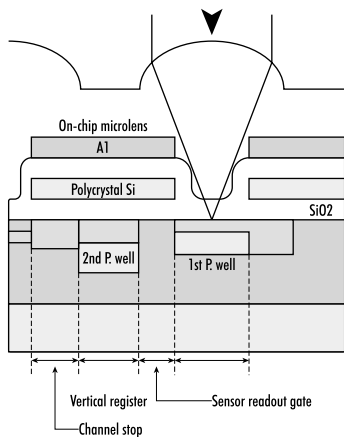
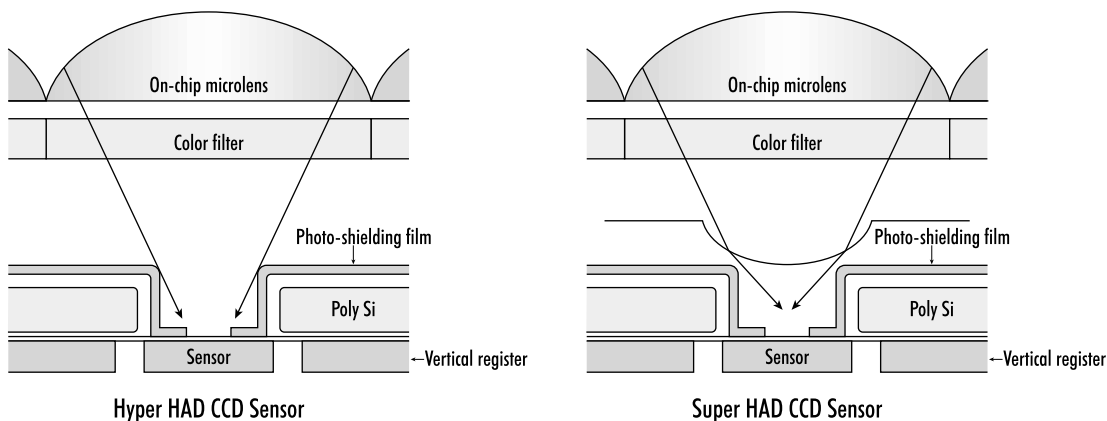

Figure 1.
Figure 2.
The CoolSNAP cameras use interline-transfer CCDs from Sony. Sony was the first to implement the interline-transfer CCD and on-chip microlenses (see **Figure 1**). By collecting some of the light falling on the masked area, which is otherwise lost, microlens technology improved the quantum efficiency (QE). Furthermore, microlenses increase the effective fill factor of the CCD from approximately 40% to greater than 75%. Sony subsequently improved the microlens technology and manufacturing process with the introduction of the Hyper Hole-Accumulation-Diode (HAD) CCD. Hyper HAD CCDs have much closer spacing between microlenses, thus further increasing the light-collection efficiency, even with reduced pixel sizes (see **Figure 2**).
Recently, Sony has developed the Super HAD interline CCD with an additional layer of on-chip microlenses very close to the pixel area (see **Figure 2**). When used with wider f-number lenses, a single array of microlenses cannot focus the higher-angle light rays onto the sensing area of the pixel and sensitivity is reduced. A second layer of microlenses helps alleviate this problem by further condensing the beam path, thereby increasing QE. Another improvement in this technology is thinning of the insulating layer between the silicon substrate and polysilicon gate structures, which reduces the light leaking under the mask (smear factor).